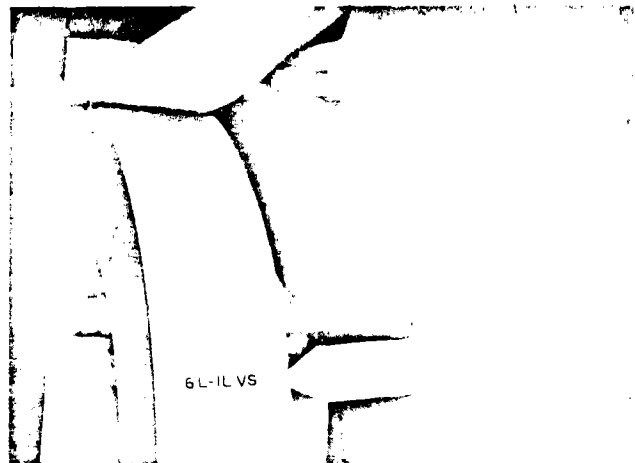

Fig. 2-59. (K21917). Valve set marks on vibration damper — KT(A)-2300
1. When viewing the engine at the vibration damper, Fig. 2-59, align the timing marks on the damper with the pointer on the gear case cover.